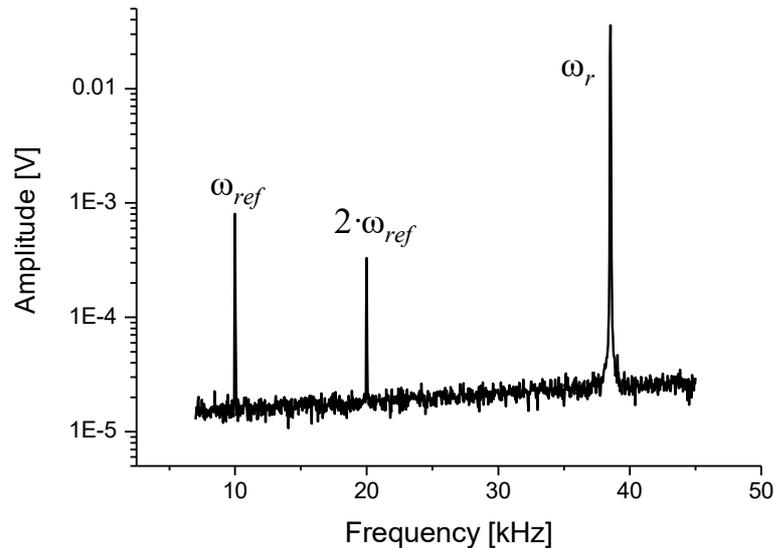

Figure 5: Frequency spectrum of the oscillating cantilever
A schematic diagram with the basic components of the lock-in amplifier is shown in Figure 5 on page 5. First of all the received signal is amplified and digitized. Divided into two separate channels, the signal is multiplied by the mentioned reference signal (with frequency  $\omega_{ref}$ ) and the  $90^\circ$  phase-shifted reference signal respectively. The reference signal is generated with the lock-in's digital oscillator. An additional implemented phase displacement  $\Psi$  enables to compensate phase differences caused by the measuring equipment. After multiplication, the resulting signals are low-pass filtered and provide now information about the real part  $X$  and the imaginary part  $Y$  of the analyzed signal relating to the phase position of the reference signal. Out of them the amplitude  $R$  as well as the relative phase shift  $\varphi$  are calculated.
Inserting equation (6) in (5) and using power-reduction formulas of trigonometric functions one can expect a force between tip and sample at the frequency  $\omega_{ref}$  as well as at  $2 \cdot \omega_{ref}$ . Figure 5 confirms this prediction: It shows the frequency spectrum of the cantilever oscillation with clear signals at the mechanical excitation frequency  $\omega_r$  and at the frequencies of the first and second harmonic of the electrical excitation.